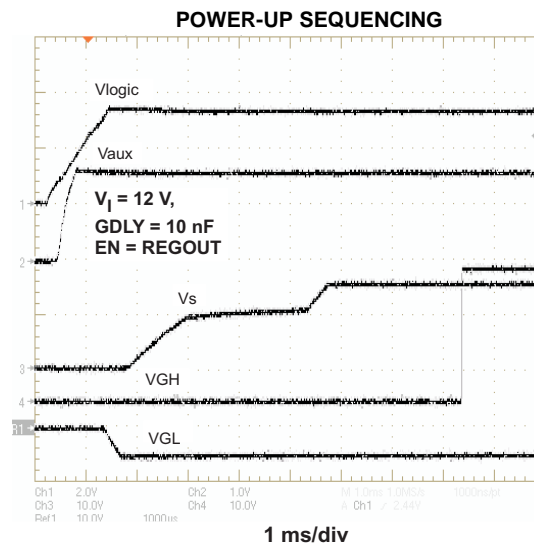
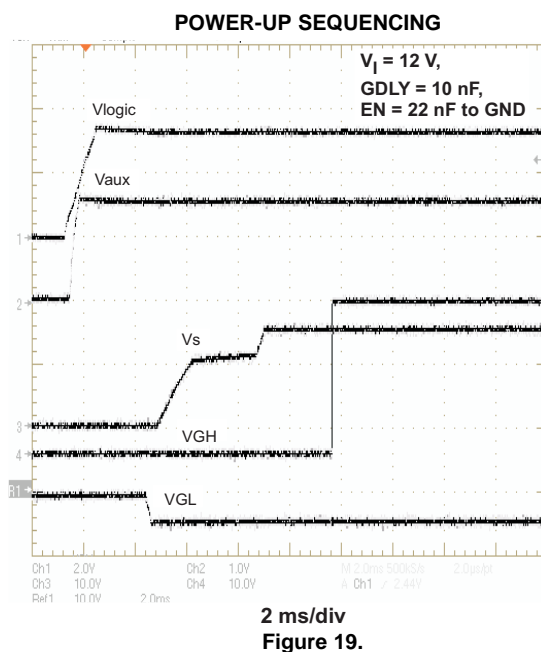
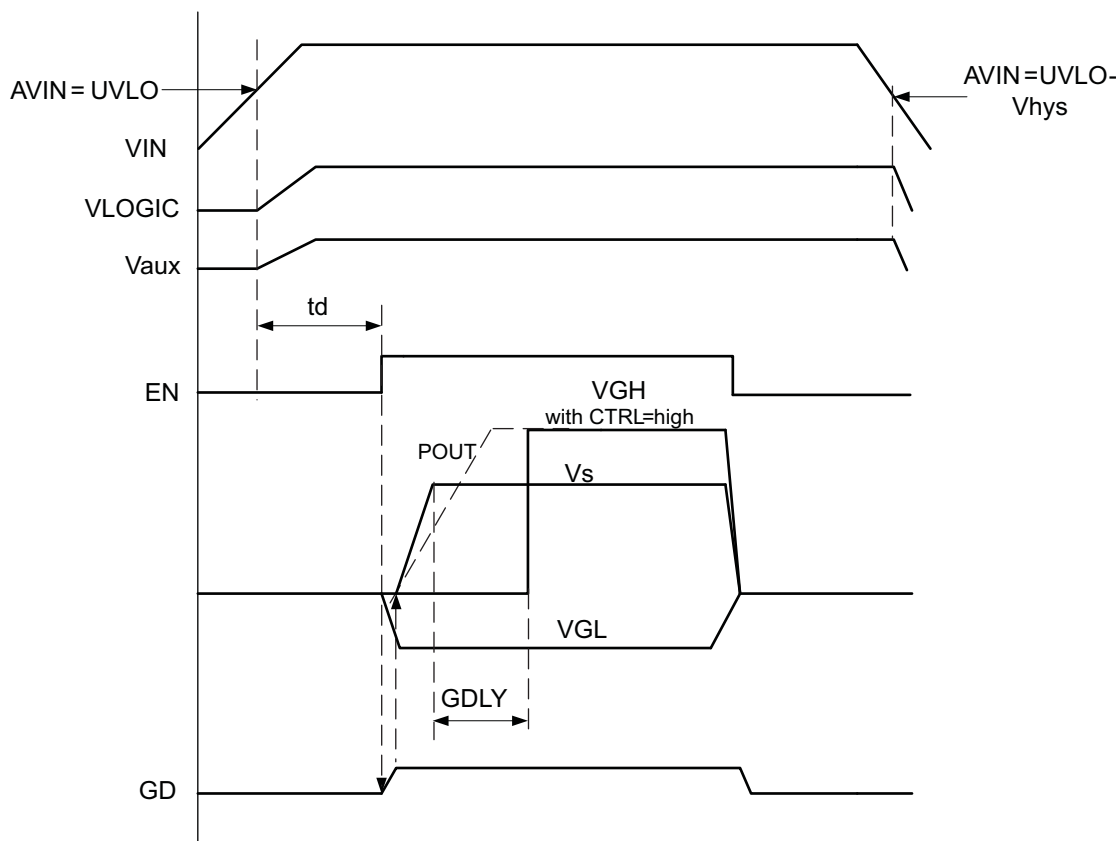

Figure 18.
Figure 19.
Figure 21. Power Up Sequencing
The device has an adjustable start-up sequencing to provide correct sequencing as required by LCD. When the input voltage exceeds the undervoltage lockout threshold, then the step-down converter and LDO controller start-up at the same time. As the enable signal (EN) goes high, the negative charge pump starts up followed by the boost converter V_s starting at the same time as the positive charge pump. See the typical curves shown in Figure 18, Figure 19, and Figure 21.
If no logic control signal is available, it is also possible to connect a capacitor to this pin to set the delay time t_d as shown in Figure 21 and Figure 19.